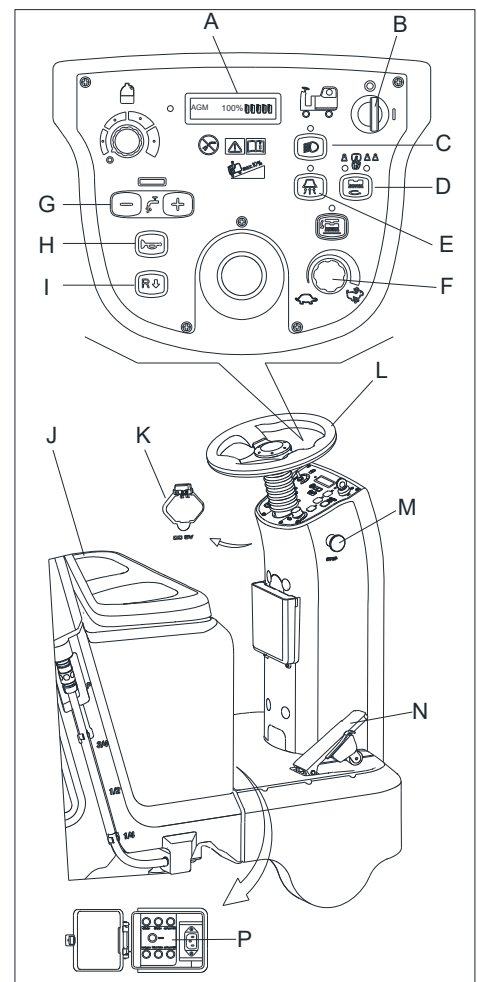

Figure 12
2. Sit on the seat (J, Figure 12), insert the key switch (B) and turn it to “I”. If the LCD (A, Figure 12) is 100%, the batteries are fully charged for use. If the LCD (A, Figure 12) is 10%, batteries must be charged before operation. [Refer to MENTAINENCE chapters for batteries charging]
3. Press One-Start button (D, Figure 12) to start the machine, the squeegee and brushes are released to the floor automatically, vacuum motor begins to work.
4. Depress the accelerate pedal (N Figure 12), operate the machine forward or backward by steering wheel (L Figure 12) together with forward-backward switch (I Figure 12), you can adjust speed by speed adjusting knob (F Figure 12).
5. Adjust solution flow by solution adjusting button (G Figure 12) base on cleaning requirement.
6. You can charge your phone or pad through USB charging port (K Figure 12) when the key switch (A Figure 12) is turned to “ON”.
7. Press the horn button (H Figure 12) to warn people when necessary.
8. If necessary, press the emergency button (M Figure 12) for machine emergency stop.
The brush motor, vacuum motor, drive motor and control circuit are protected by overload protector (P Figure 12). When the overload protector trip, do not reset it immediately without finding out the root cause, and make sure the motor is cooling-off before reset.
9. Loosen the accelerate pedal (N, Figure 12), the machine stops running.
10. Press One-Start button (D, Figure 12) to stop brushes and vacuum motor. The brushes and squeegee are lifted up from the floor automatically. The vacuum system is closed after a few seconds delay.